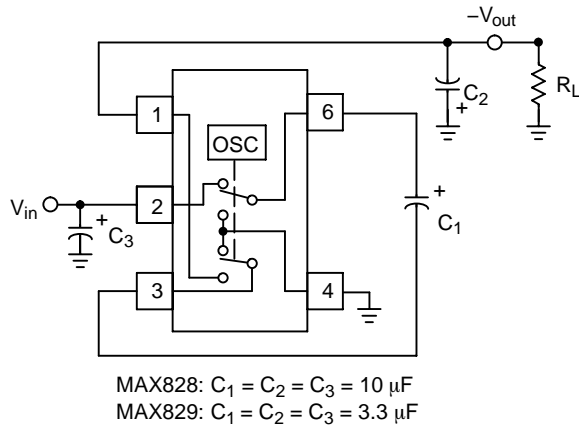

Figure 20. Test Setup/Voltage Inverter
**ELECTRICAL CHARACTERISTICS** ( $V_{in} = 5.0$  V for MAX828  $C_1 = C_2 = 10$   $\mu\text{F}$ , for MAX829  $C_1 = C_2 = 3.3$   $\mu\text{F}$ ,  $T_A = -40^\circ\text{C}$  to  $85^\circ\text{C}$ , typical values shown are for  $T_A = 25^\circ\text{C}$  unless otherwise noted. See Figure 20 for test setup.)
The most common application for a charge pump is the voltage inverter (Figure 20). This application uses two or three external capacitors. The capacitors  $C_1$  (pump capacitor) and  $C_2$  (output capacitor) are required. The input bypass capacitor  $C_3$ , may be necessary depending on the application. The output is equal to  $-V_{in}$  plus any voltage drops due to loading. Refer to Tables 1 and 2 for capacitor selection. The test setup used for the majority of the characterization is shown in Figure 20.